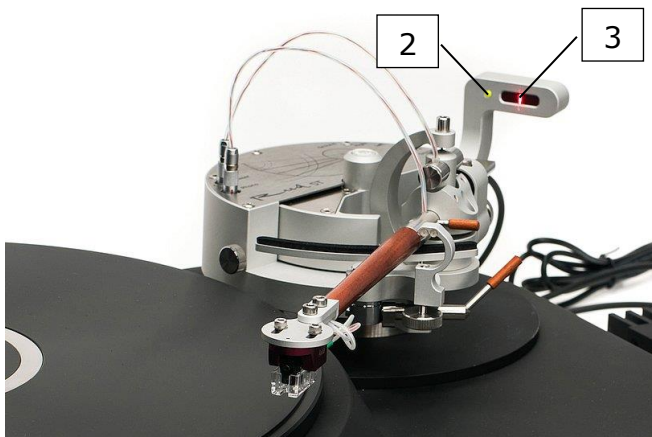

Figure 22
- Tonearm may move and green light [2] starts to blink (Figure 22). It indicates that tonearm is ready but is not yet actively guided, since it is far from the LP's outer edge. Gently push tonearm's armtube towards LP. When green light [2] stops blinking, it indicates that tonearm's guidance started. Do not resist to tonearm's movement, it has to operate freely. Perform final adjustments of cartridge position using Reed 5T Protractor.
- When tonearm is operating, laser beam should point to the center of sensor grid [3] (Figure 22)
- g) Please avoid applying force and swift movements when touching armtube. If light [2] started to blink red (Figure 22), it means that tonearm operation was overloaded. In such case, please perform Step 10-f of this User manual.